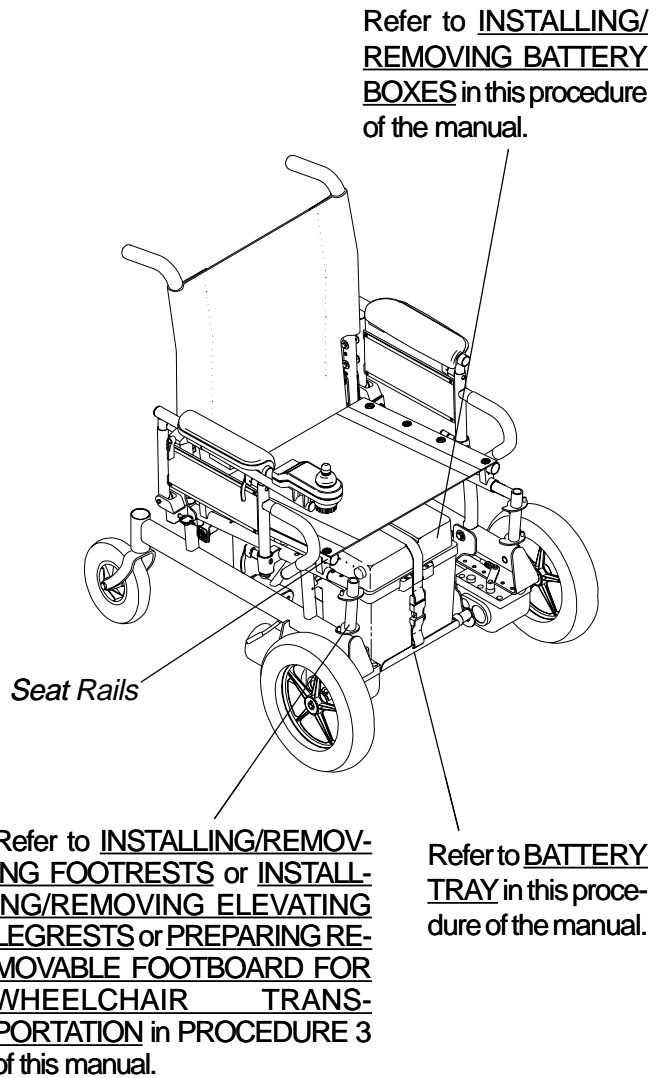

FIGURE 1 - TRANSPORTING RANGER II FWD - INTEGRATED SLING SEATS
Unfolding/Folding - Integrated Sling Seats (FIGURE 1)
2. Assemble the wheelchair. Refer to FIGURE 1.
2. Remove the batteries and footrests/legrests/footboard plate from the wheelchair. Refer to FIGURE 1.